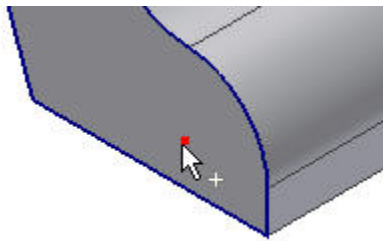
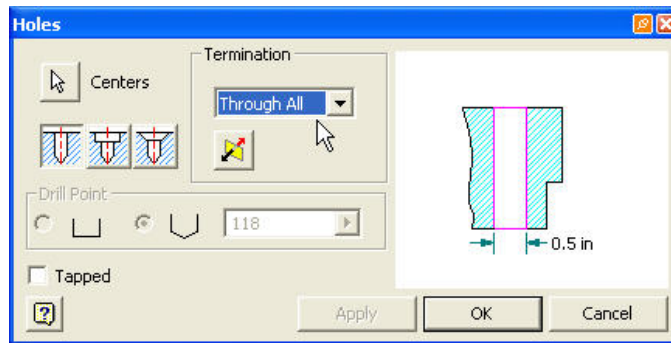

Figure 17
Figure 18
15. Click on the Return button to switch to the Part Features mode. Select the **Hole** feature to open the hole dialog box. Notice that the button next to Centers is selected. Click on the center point of the bottom arc as shown in Figure 17. Set the Termination to **Through All** and the diameter to 0.5 in. as shown in Figure 18.